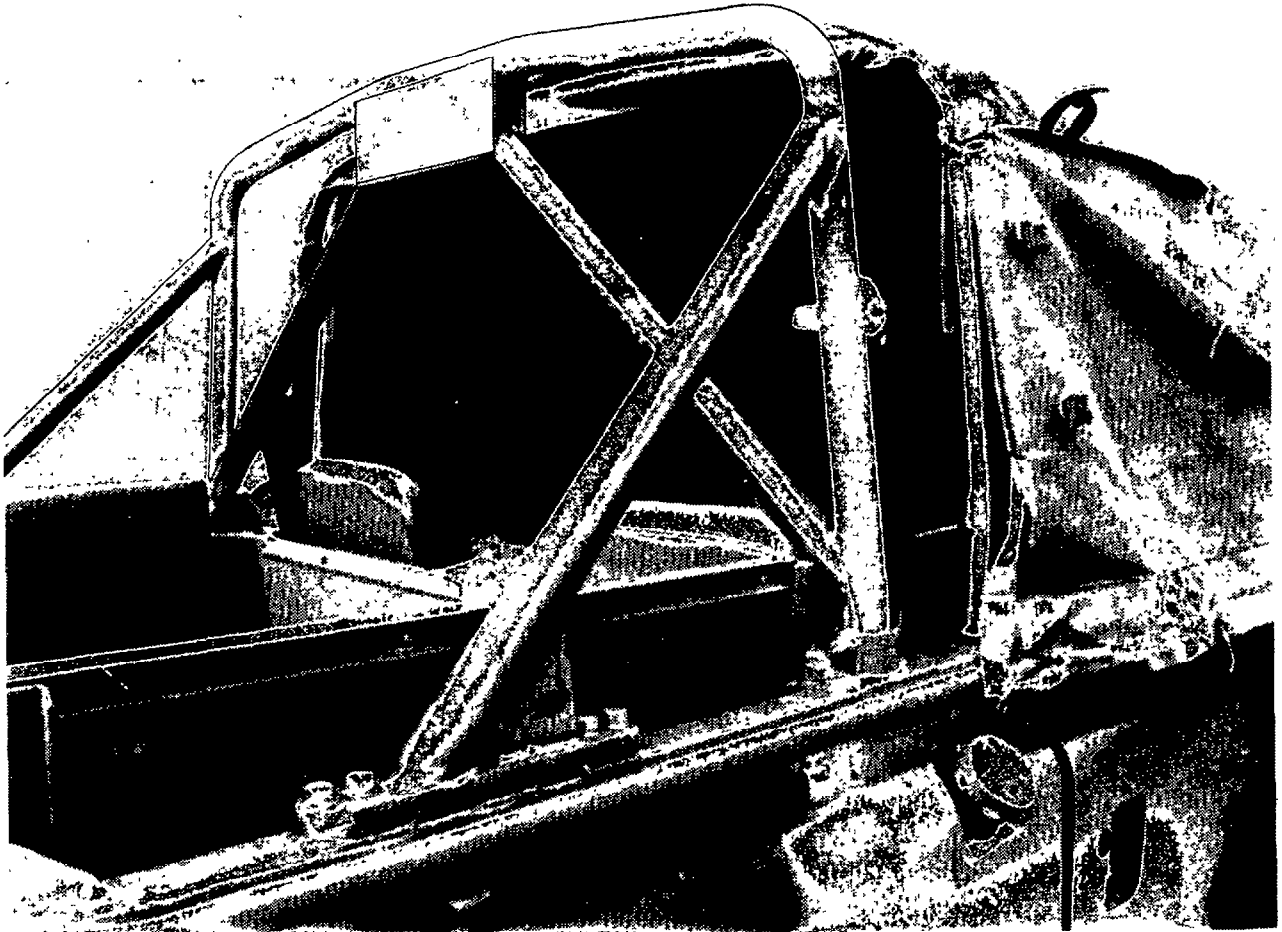
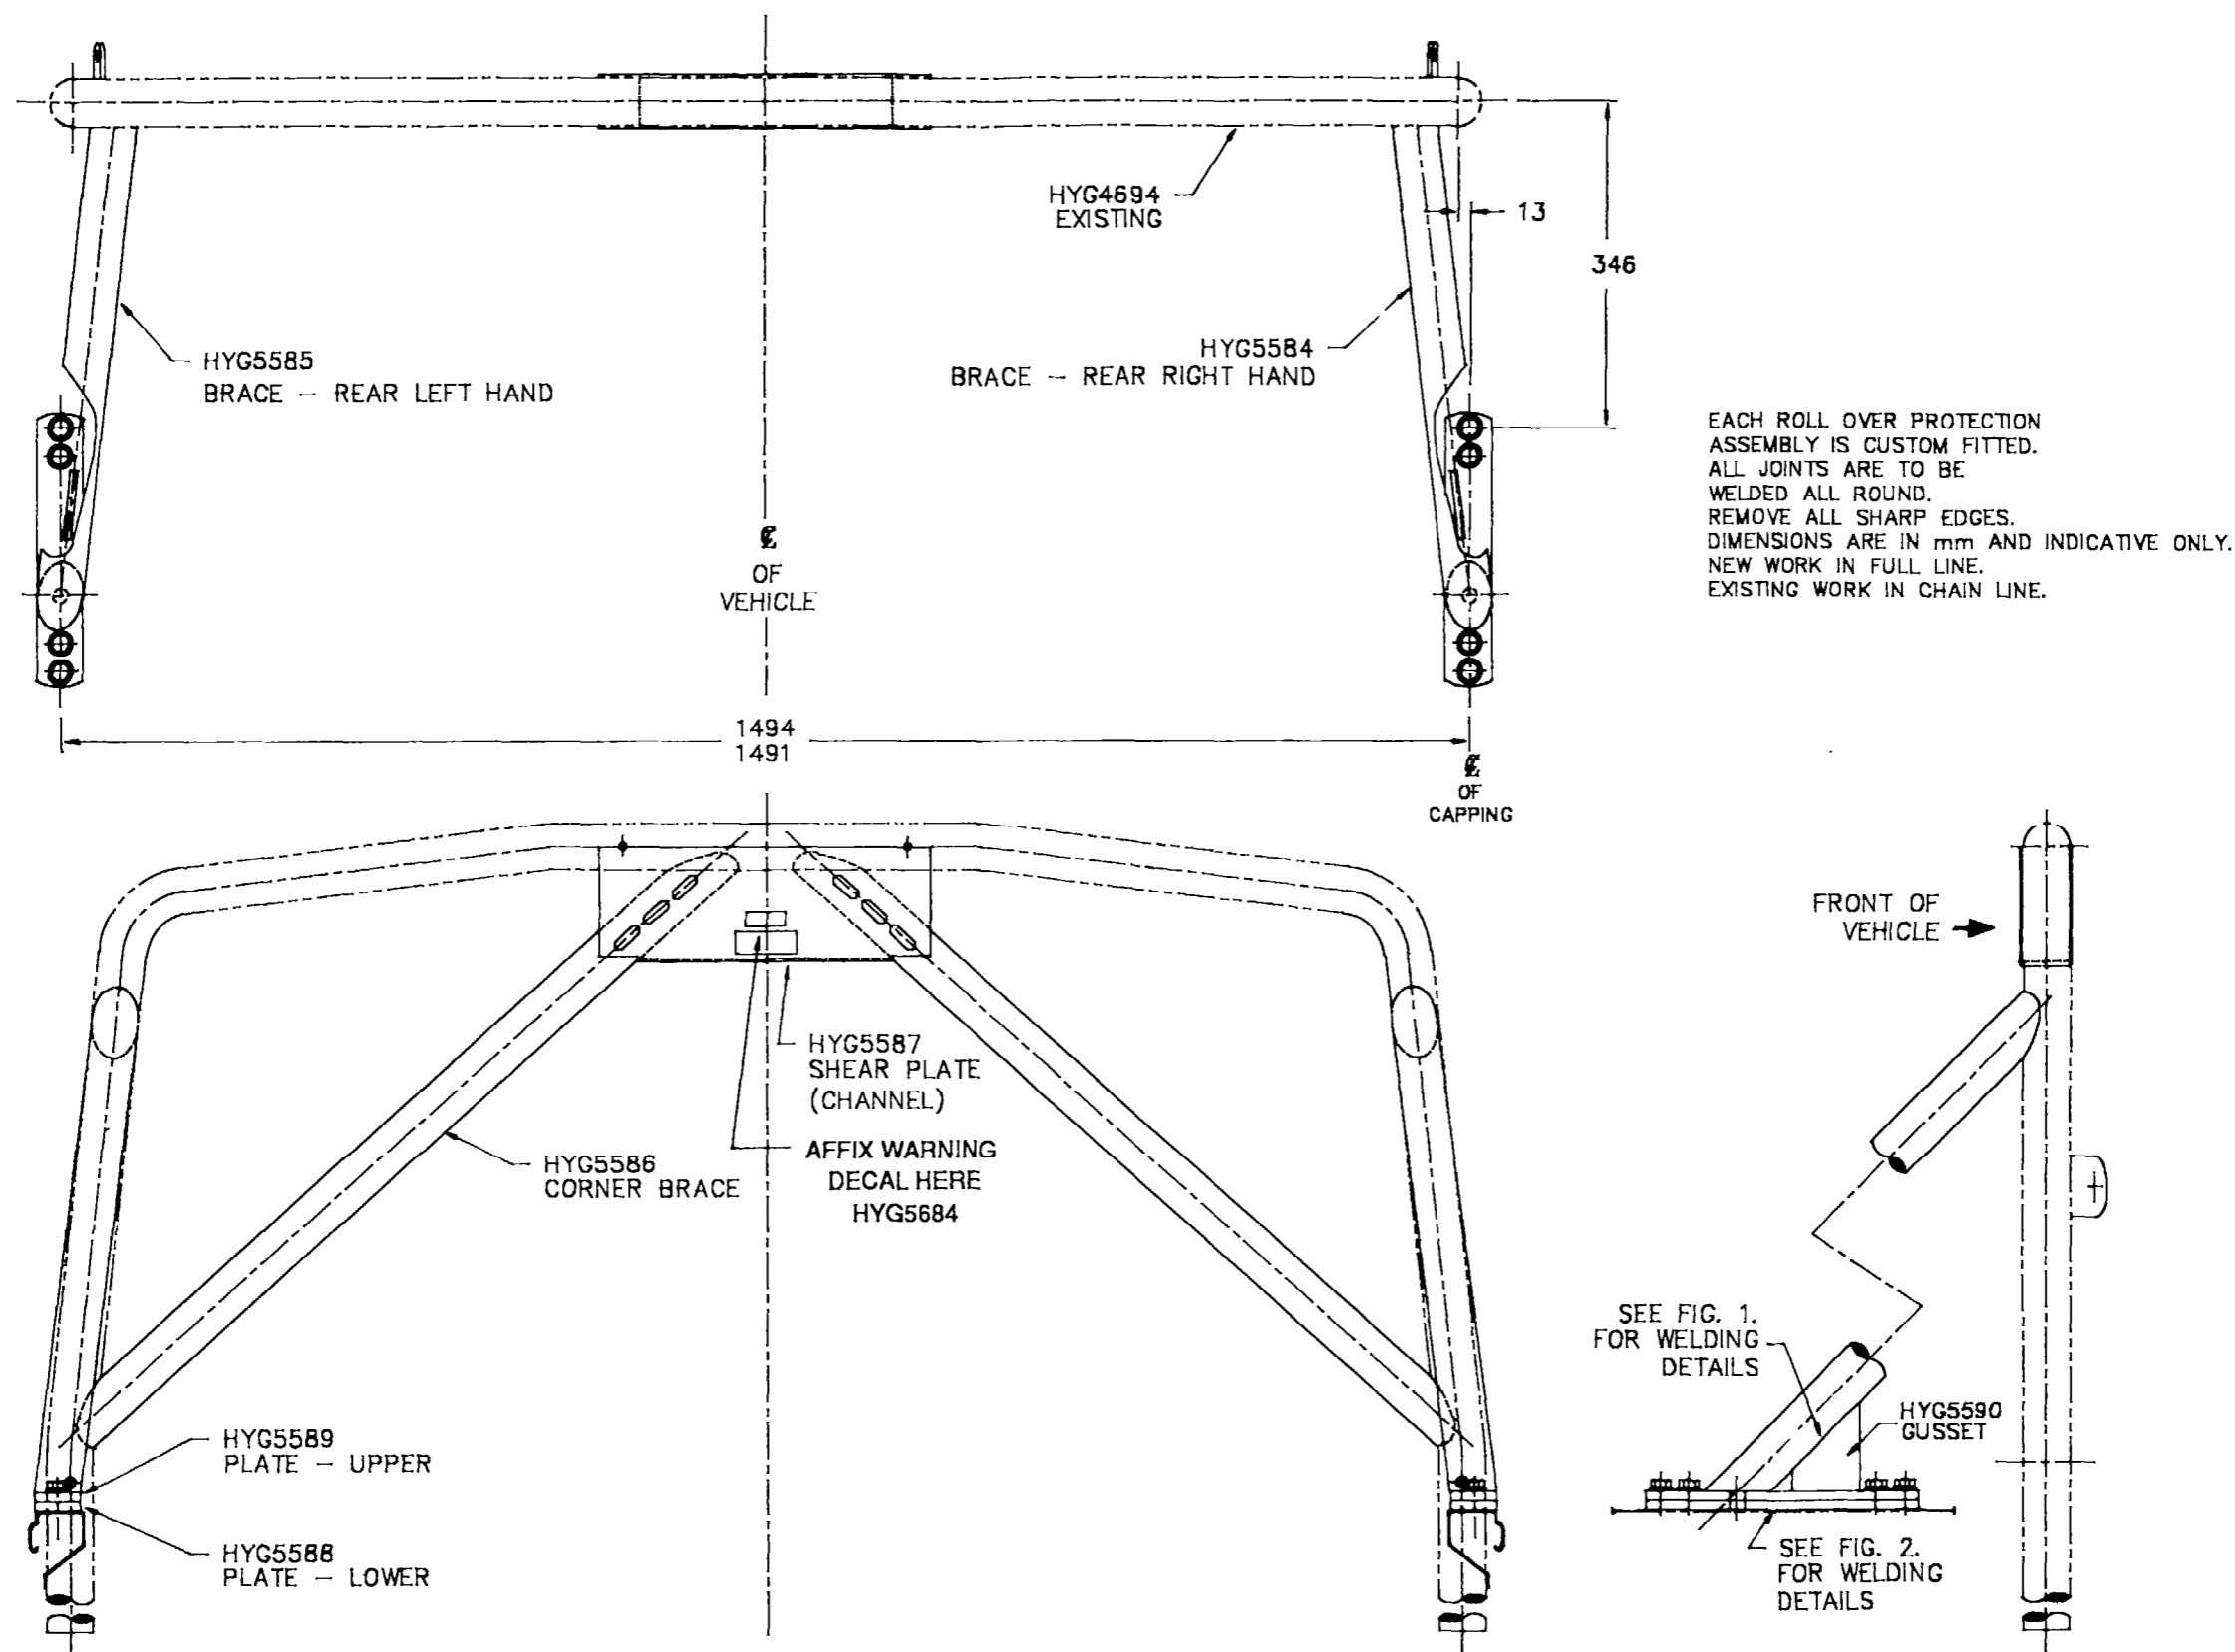

FIG 6 - COMPLETED MODIFICATION
FIG 7 - ASSEMBLY - ROLL OVER TUBE
8. The completed modification is shown at Fig 6, with the engineering assembly drawing (MEA drawing No 1565) shown at Fig 7 and is to be completed strictly in the sequence as described below: